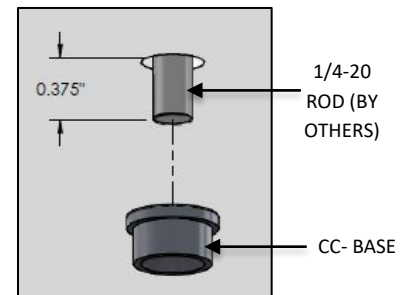

FIG. 10 – GRID CEILING INSTALLATION
6. Add a light thread locking compound to the 1/4-20 ROD (by others). Then thread CC-BASE to 1/4-20 ROD protruding through the ceiling material as shown in FIG. 10.